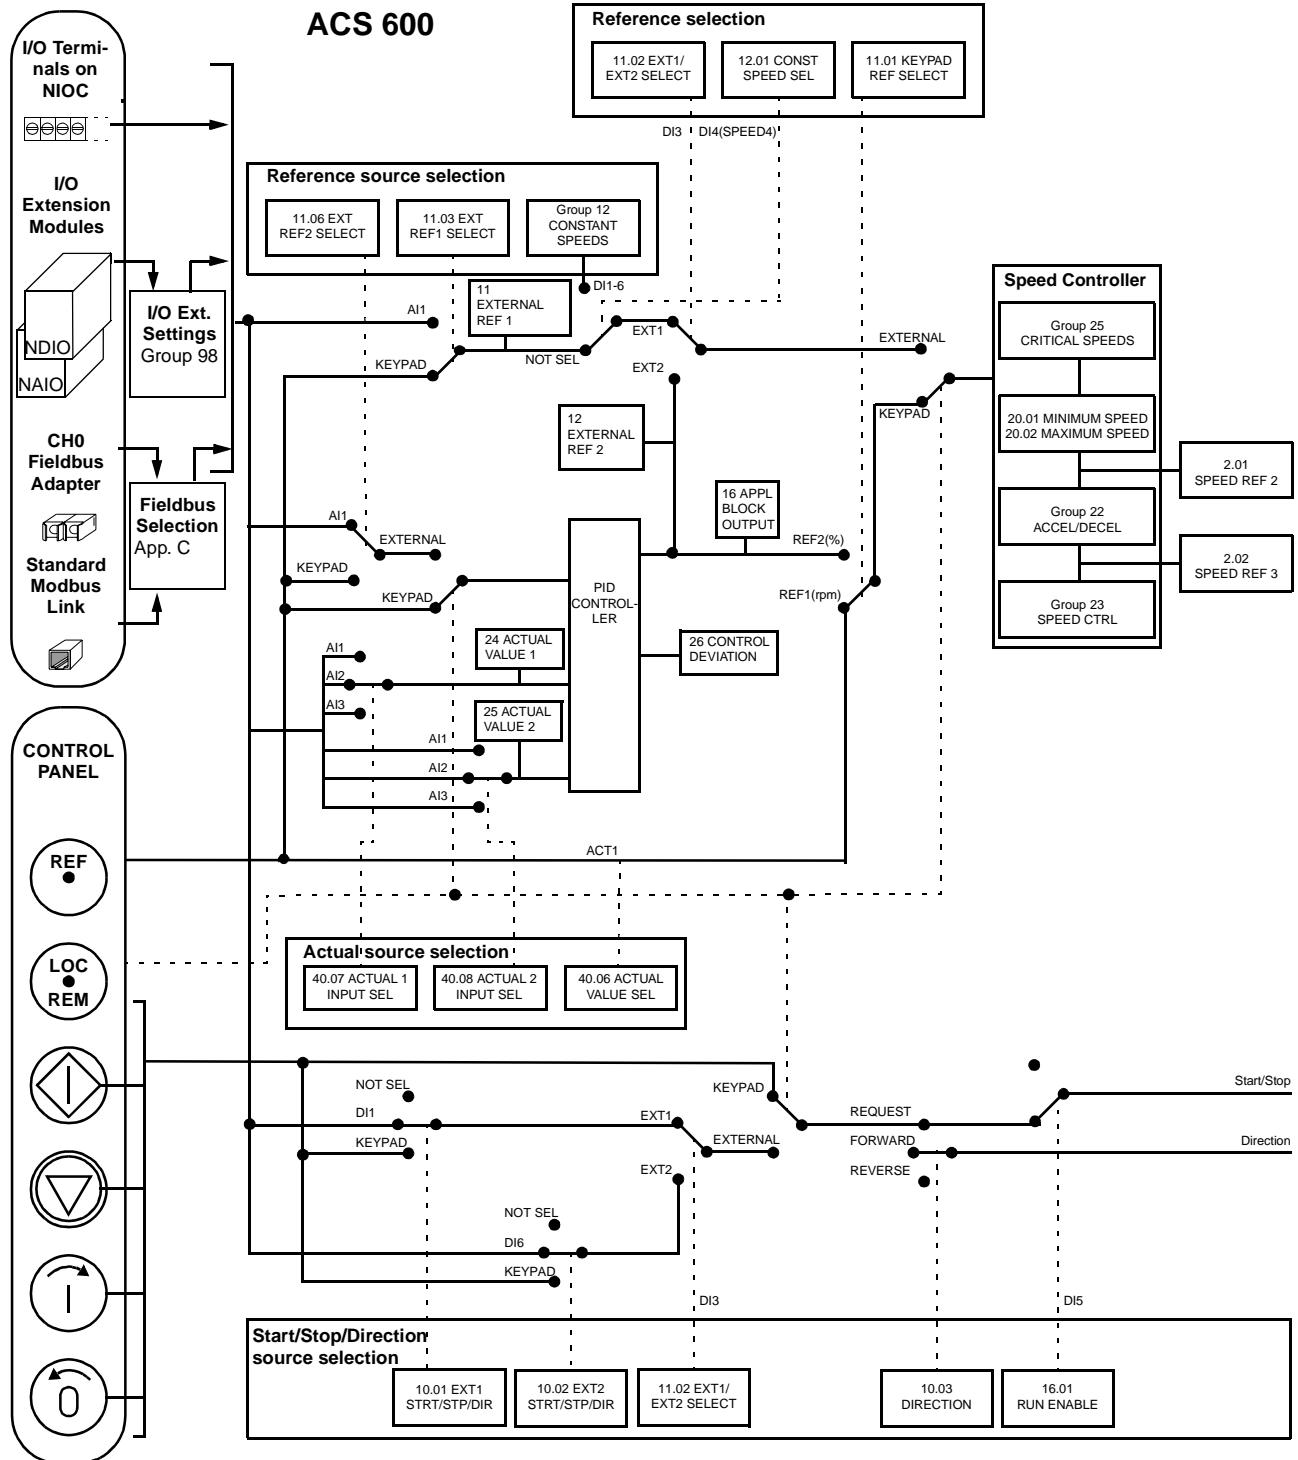

Figure 5-9 Control Signal connections for the PID Control Macro.
**Control Signal Connections** Control signals i.e. Reference, Start, Stop and Direction command connections are established as in Figure 5-9 when you select the PID Control Macro.